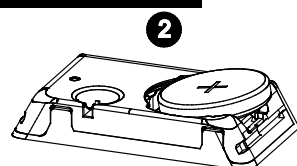

Fig. 4b – Replacing Battery
3. Insert the new battery into the sensor while observing battery polarity (see Figure 4b).
2. Press and release the tamper switch for 1 to 2 sec. (see Figure 4b).
1. Press and hold down the sensor's tamper switch (see Figure 4b).
2. Insert the battery into the sensor while observing battery polarity (see Figure 4b).